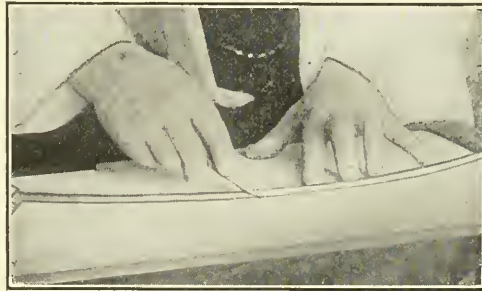

Fig. 62
16. A Flexible Ruler, or spline, of wood, rubber, or other material can be used for drawing irregular curves. (Fig. 62. See page 236.)